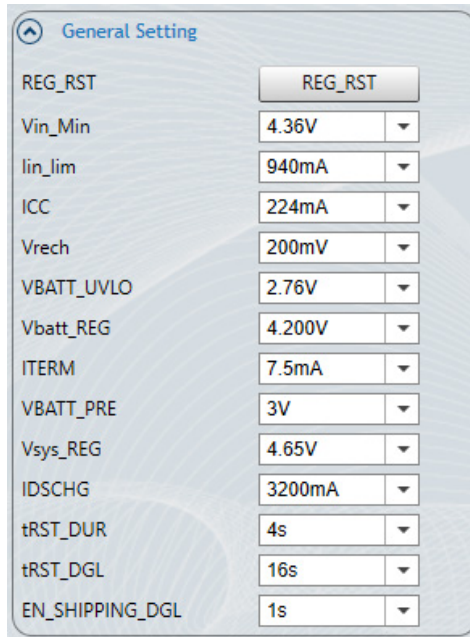

Figure 5: Charger Function
- Figure 5 shows the default values of the charger function.